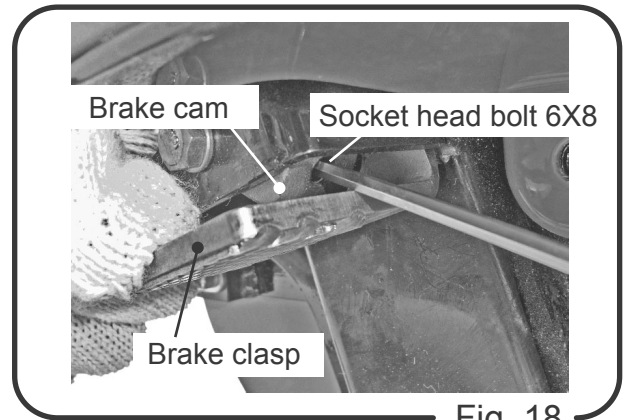

Fig. 18
- B. Raise the brake lever slightly so that the brake clasp is lowered slightly and the hexagon bolt at the lower part of the brake cam can be seen. (Fig. 18)
- C. Insert a hexagonal wrench into the hexagon bolt at the lower part of the brake cam. If turned to the right, the braking action increases. If turned to the left, the braking action decreases. (Fig. 18)